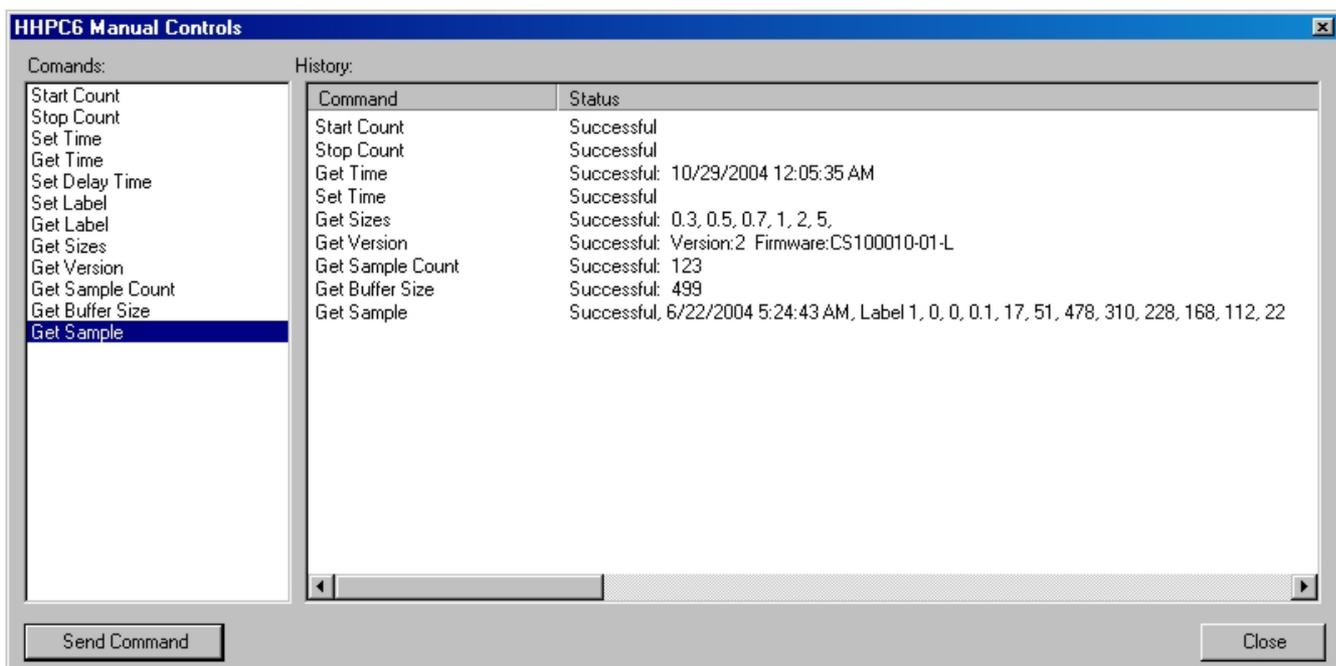

Figure 18 Manual Commands Screen
3. Click the **MANUAL COMMANDS** button. The Manual Commands screen opens (Figure 18). All available commands for the selected model of counter are shown in the left-hand section. Commands vary from model to model but commonly include: